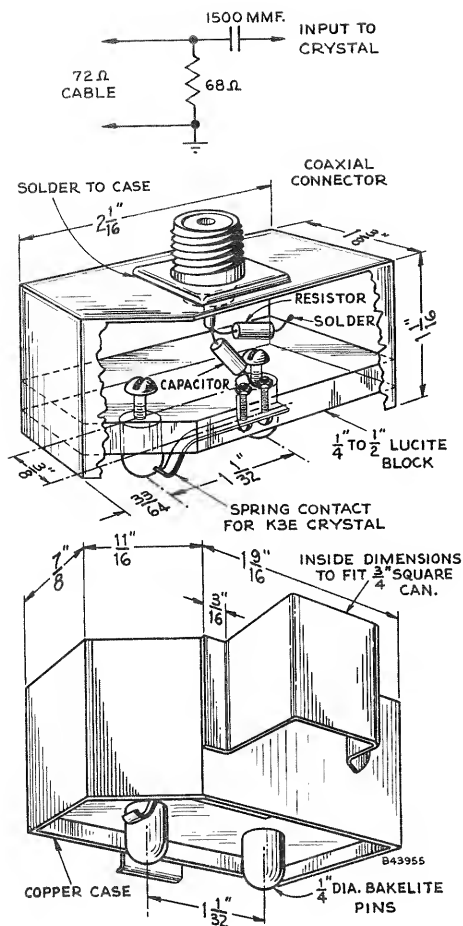

Figure 17—KRK12C Input Head
**Tuner Unit Input Head.** — Refer to figure 17 under Alignment Procedure. This item is absolutely necessary for proper receiver alignment.
The balance of the picture I-F adjustments will be performed with the sweep or signal generators connected to the front terminal of CR1, the K3E crystal mixer, of the KRK12C tuner. Extremely short leads must be employed in connecting to the crystal mixer and in grounding to the tuner case in order to obtain reliable response curves. An "Input Head" has been designed for this purpose and should be employed to achieve proper alignment of the receiver. This "Input Head" is shown in figure 17.